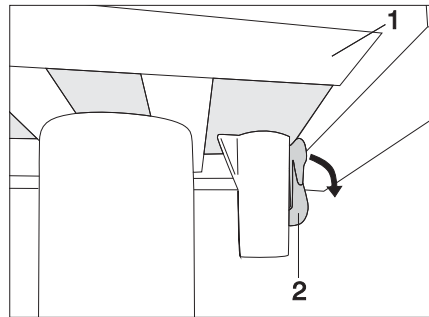

Fig. 95 Lock single-column table (locked)
- Push the locking lever (Fig. 95,2) down.
- Move the table-top (Fig. 95,1) to the desired position.
- Press the locking lever (Fig. 95,2) back upwards.